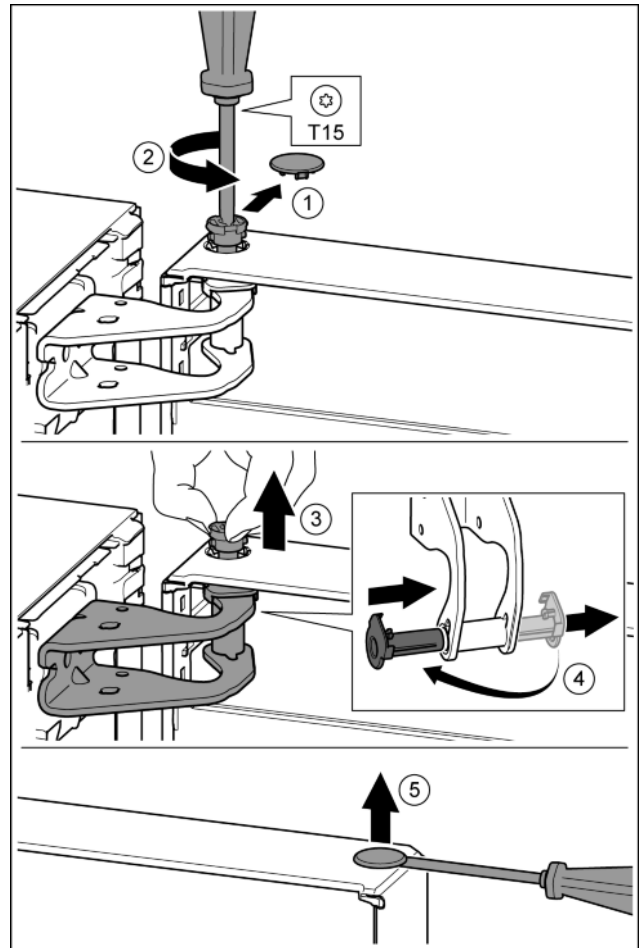

Fig. 9
- Carefully remove the protective cover. Fig. 9 (1)
- Undo the bolt a little with a T15 screwdriver. Fig. 9 (2)
- Hold the door and remove the bolts with your fingers. Fig. 9 (3)
- Pull the bearing bush out of the guide. Insert from the other side and click into place. Fig. 9 (4)
- Carefully lift the plugs out of the door bearing bush with a slotted screwdriver and remove. Fig. 9 (5)